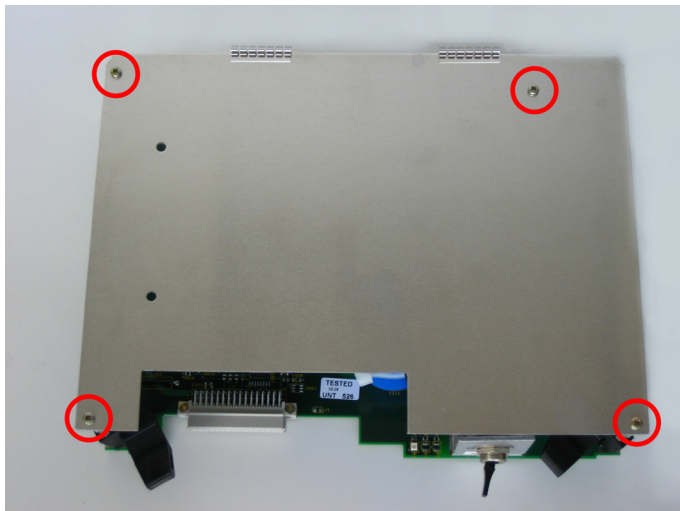

Figure 1-17 Fastening screws of the shielding cover
- ❑ Remove the shielding cover (4 screws) and swing it towards the battery pack connection cable (see Figure 1-17).